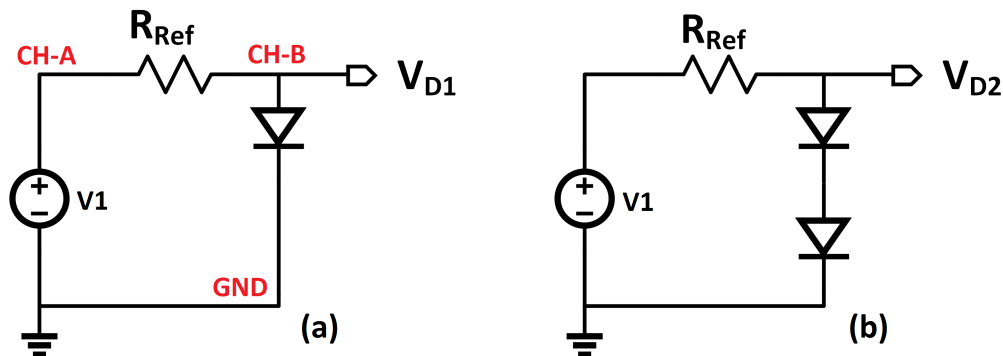

Figure 8: Diode as reference
1. Assemble the circuit shown in Fig. 8 (a). Use  $R_{ref} = 1\text{ k}\Omega$ .